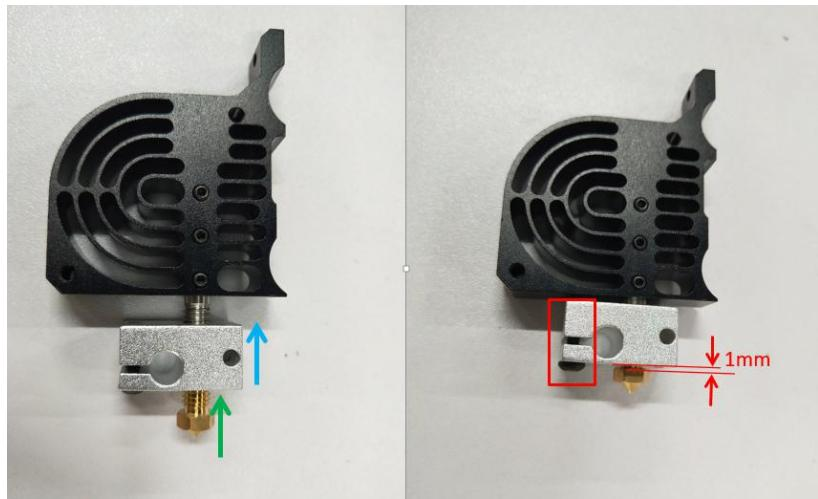

Figure 2.12.3
**Step 2-12-3:** as shown in Figure 2.12.3